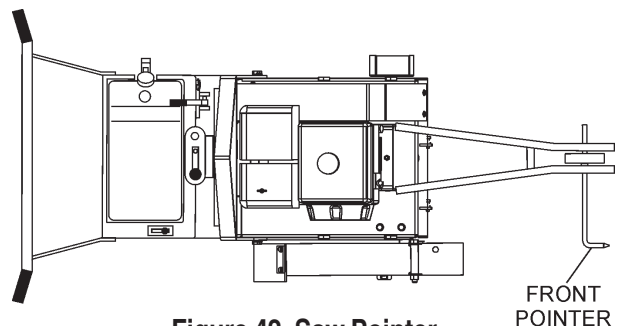

Figure 42. Saw Pointer
1. The Cutter 3 saw employs a front pointer (Figure 42) that has been precisely aligned with the diamond blade at the factory. Referencing the figure below, accurate tracking is accomplished by referencing the front pointer tip over the cut line. Precise saw direction is accomplished by slight operator pressure against the handle bars.